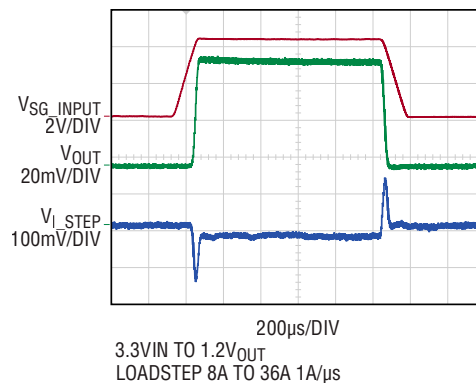

Figure 3. DC2874A-A 4-Phase Load Transient Response
7. Measure the I_STEP voltage to observe the current, $V_{I_STEP}/10m\Omega$. Adjust the amplitude of the pulse to provide the desired transient. Adjust the rising and falling edge of the pulse to provide the desired ramp rate. Figure 3 shows a load step from 8A (RL = 150m Ω) to 36A. Refer to the following equations: